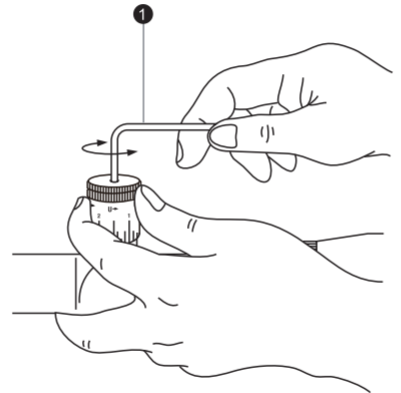

Fig. 3-3
With the turret held with your fingers to avoid shifting of the aligned scale ring, turn the screw in the top of the turret counter-clockwise with the supplied hex key (1) until the screw comes out. Then remove the turret (Fig. 3-3).